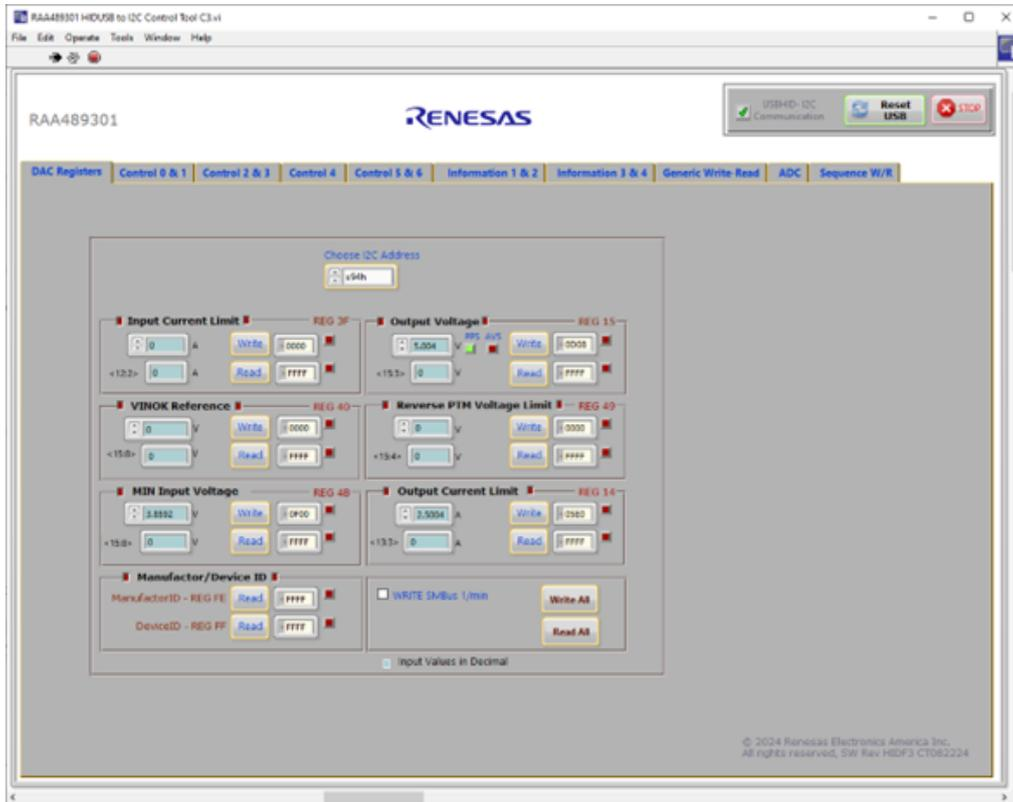

Figure 4. RAA489301 Graphical User Interface
The GUI appears (see Figure 4).
2. Check the status of the HID USB-I2C Communication at the top-right of the GUI. If the communication is OK, the HID USB-I2C Communication status shows a green checkmark (see Figure 4).